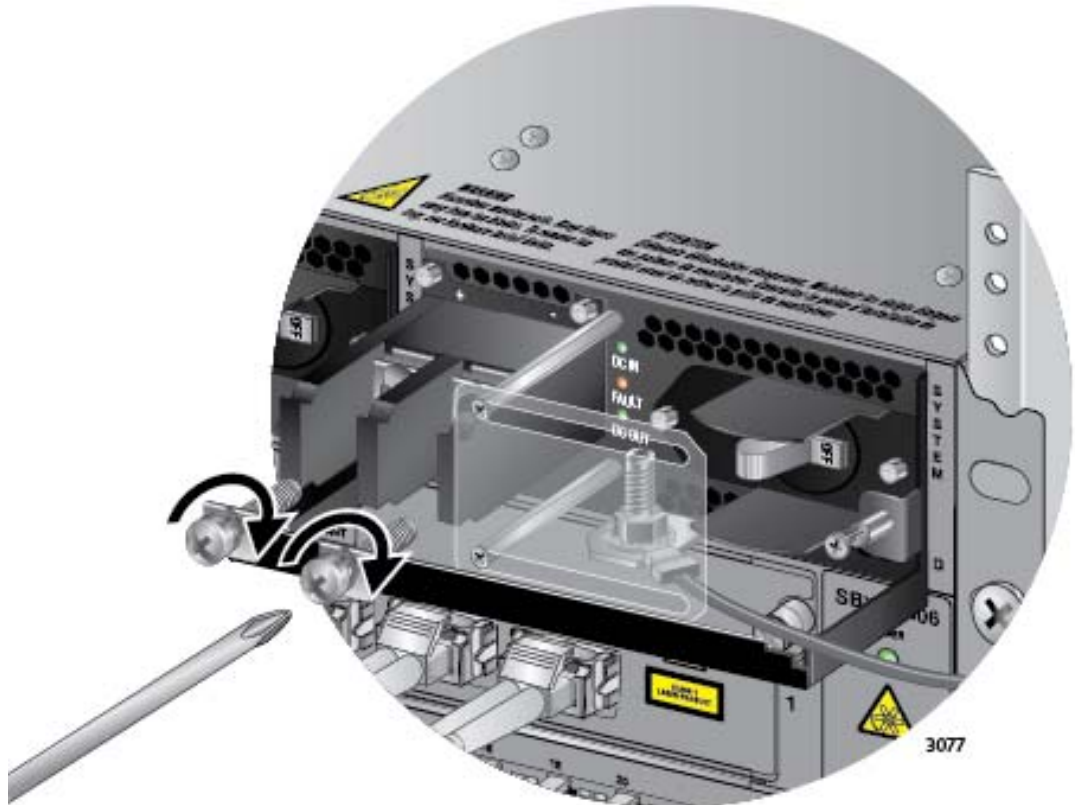

Figure 175. Reinstalling the Screws on the Positive and Negative Terminals
7. Reinstall the two screws on the negative (-) and positive (+) terminals. Refer to Figure 175 on page 291.